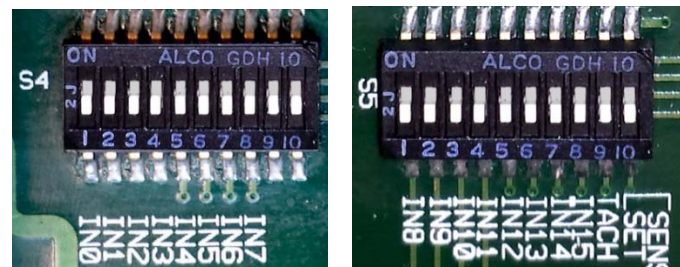

Figure 8 – S4 and S5 Dip Switches set for PNP sensors (OFF)
- Verify that the NPN/PNP dip switches **S4** and **S5** are set to match the sensor type (see Figure 8 – S4 and S5 Dip Switches set for PNP sensors (OFF)). The dip switches are typically pre-set at the factory.
- Verify that the master NPN/PNP dip switch, **S5** position 10, is set to match the sensor type (see Figure 8 – S4 and S5 Dip Switches set for PNP sensors (OFF)). The dip switches are typically pre-set at the factory.